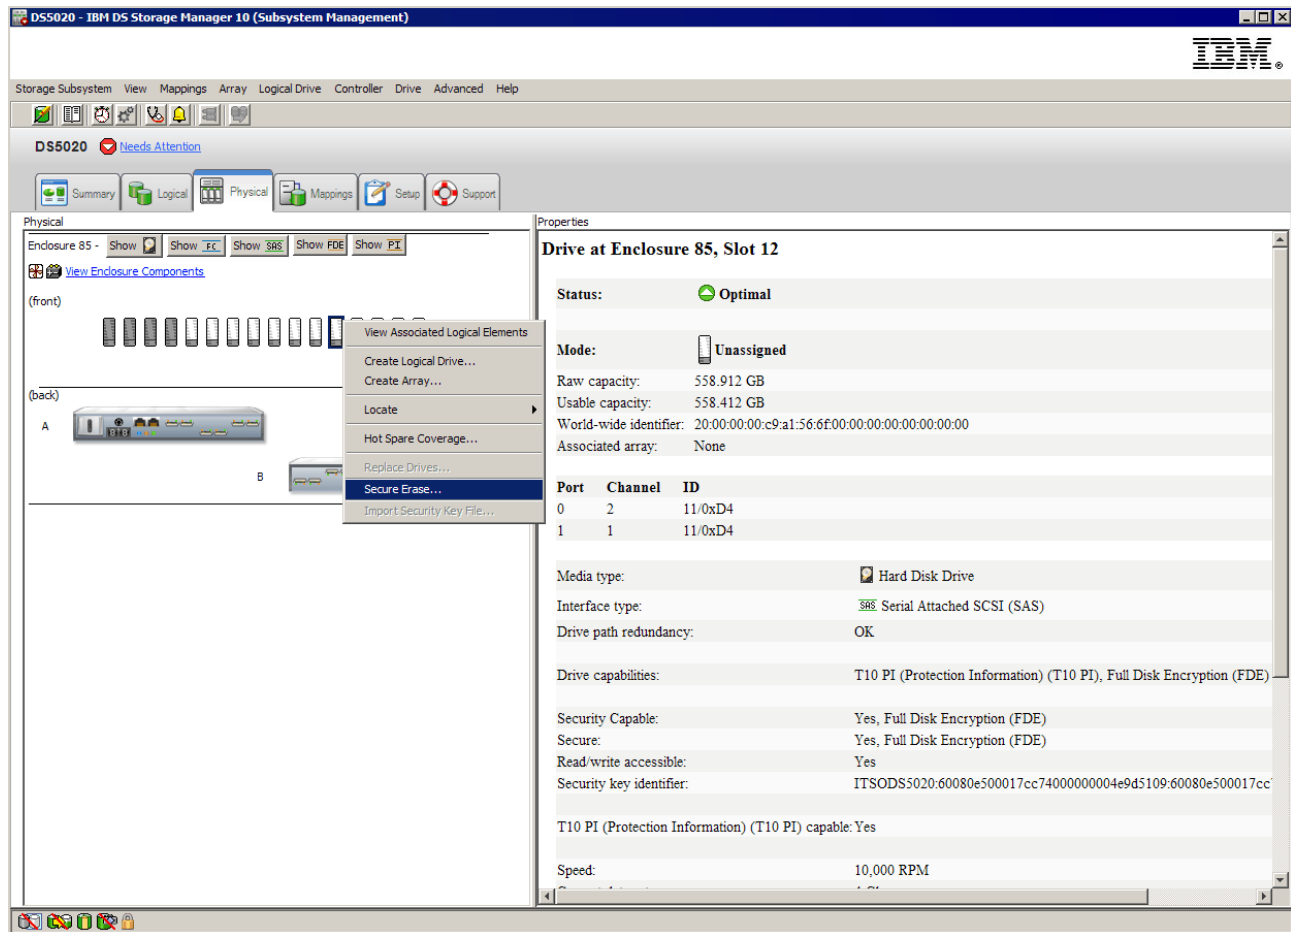

Figure 3-128 Selected FDE drive to be secure erased
1. Select and right-click the drive to select **Secure Erase** as shown in Figure 3-128.